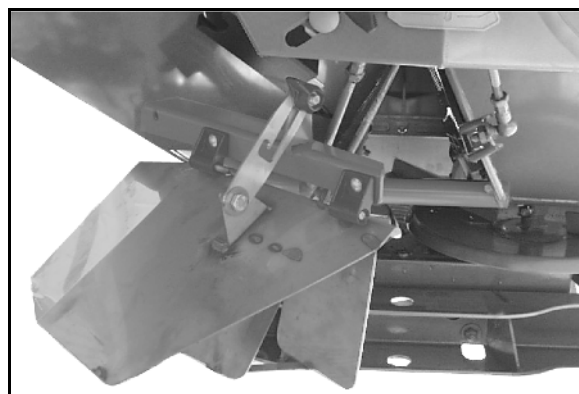

Fig. 87
To switch off the agitator head (Fig. 87/1), pull out the lynch pin (Fig. 87/2) below the corresponding hopper tip.
**When switching on the agitator head again, be absolutely certain that the agitator head finger (Fig. 87/3), when moving in the direction of rotation, does so ahead of the short vane (Fig. 87/4).**